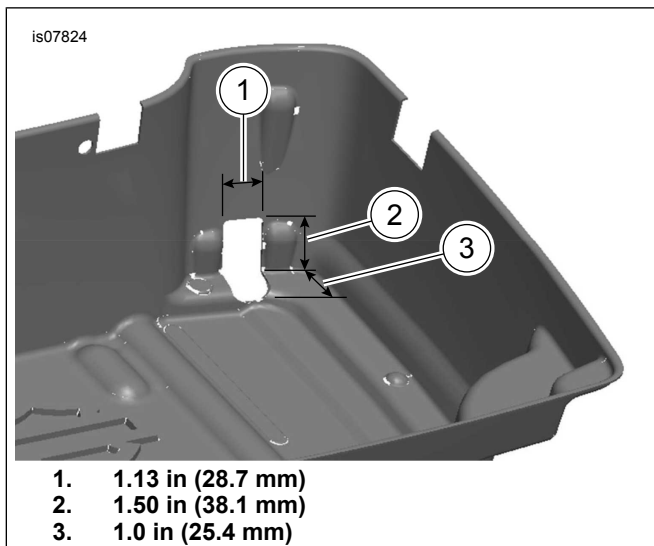

Figure 4. Cut Liner
6. Install the 10 Amp fuse (3) into the inline fuse holder of the Tour-Pak harness.
7. See Figure 4. Modify Tour-Pak liner: